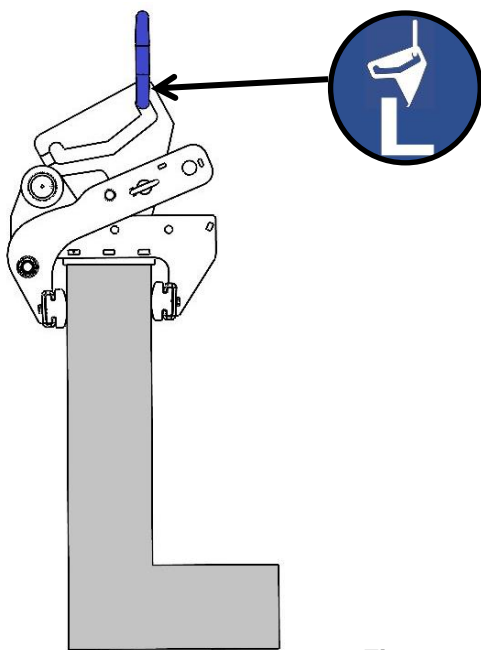

Fig. 1
To change the gripping range, first remove the lynch pin (1) and then pull out the plug pin (2) (→ Fig. 1).
Most gripping goods (L-stones) with an off-centre balance point can be moved vertically with the device (WEZ) (→ Fig. 1). However, there are elements with extremely off-centre balance points, that **cannot** be adjusted via the off-centre balance.